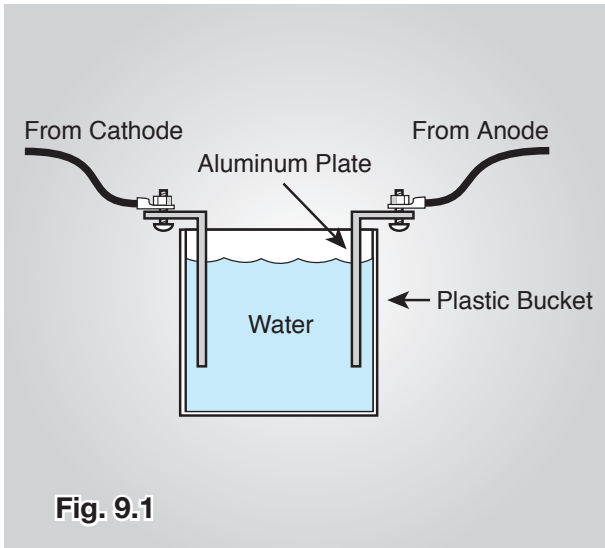

Fig. 9.1
- Construct a test load using a plastic bucket with the metal handle removed (Fig. 9.1).